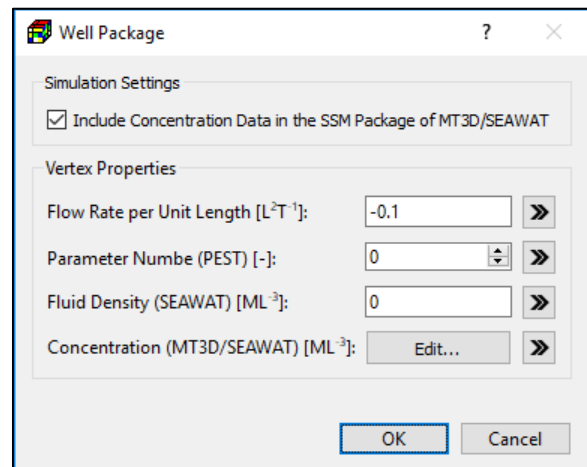

Figure 82. The Well Package dialog box for specifying vertex properties
3. Polyline input method: Figure 82 shows the dialog box for specify the following data to one or more vertices of a polyline. These vertex data can then be interpolated to model cells following the rules described in Section 3.3.2.2 and additional rules below.